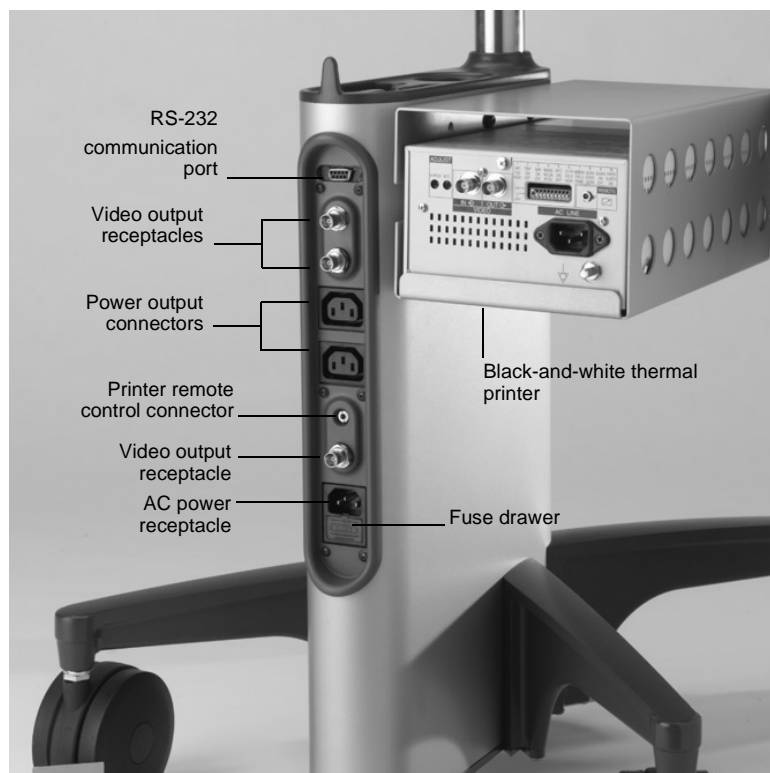

Figure 4.6 SiteStand Mobile Docking Station Connections
1. Connect the AC line cord to the AC power receptacle at the bottom of the docking station (Figure 4.6).